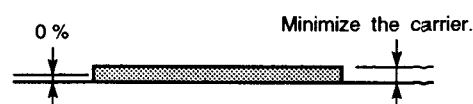

Fig. 5-1-33
- Adjust VR103 so that the Pedestal level becomes 0 % and the carrier becomes minimum as shown in Fig. 5-1-33.
- Adjust VR203 so that the Pedestal level becomes 0 % and the carrier becomes minimum as shown in Fig. 5-1-33.
- Adjust VR303 so that the Pedestal level becomes 7.5 % and the carrier becomes minimum as shown in Fig. 5-1-33.
- Adjust VR106 so that the Pedestal level becomes 0 % and the carrier becomes minimum as shown in Fig. 5-1-33.
- Adjust VR206 so that the Pedestal level becomes 0 % and the carrier becomes minimum as shown in Fig. 5-1-33.
- Adjust VR306 so that the Pedestal level becomes 0 % and the carrier becomes minimum as shown in Fig. 5-1-33.